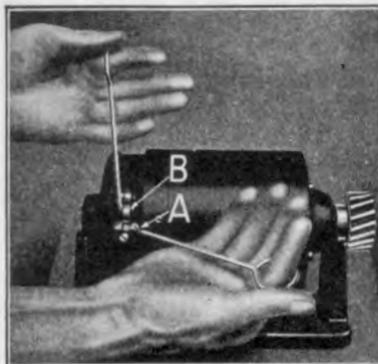

Fig. 450
- 905 Place generator on a bench plate and raise the three generator brushes by inserting a brush lifter under each brush terminal and brush spring (See "A" and "B" Fig. 450). The brushes should be raised about halfway out of brush holders allowing the brush spring to rest against side of brush.